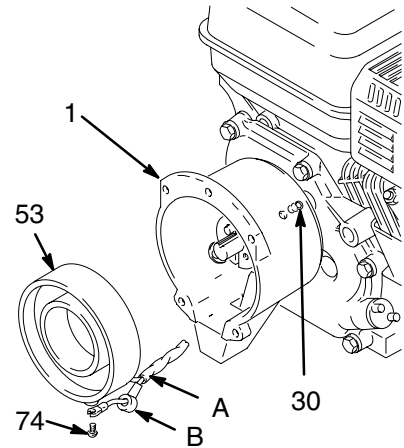

Fig. 20
**NOTE:** Refer to Fig. 20.
1. Back out the four setscrews (30) holding the field (53) to the clutch housing (1) approximately 3 turns.
3. Pull the plastic caps (B) off the wire screws (74) in both places on the field. Remove the screws and remove the wire (A).